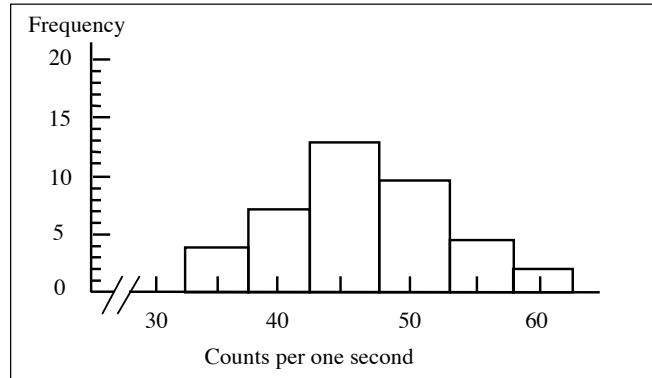

Figure 2 Histogram of number of counts per second
- Plot a **histogram** showing your results, grouping them into **bins** of equal width so that the largest bin contains perhaps ten counts, as shown in figure 2. We want to find $\langle N \rangle$, the **mean** of N for a sample of 50 measurements: